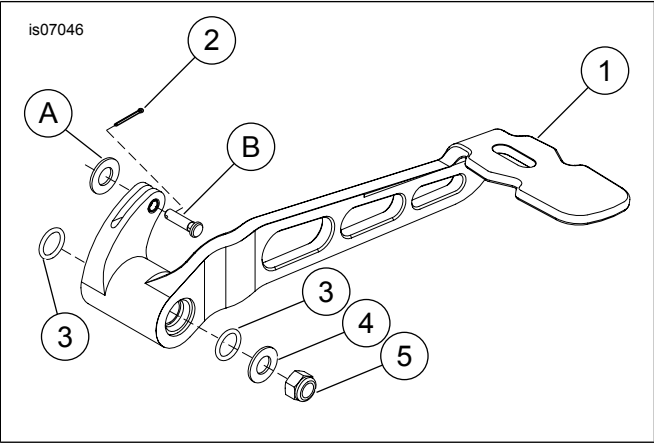

Figure 1. Service Parts: Billet Rear Brake Lever
See Figure 1 and Table 1.
1. See Figure 1 and Table 1. Remove the cotter pin and washer (A) from the master cylinder clevis pin. Discard the cotter pin.
1. See Figure 1 and Table 1. Insert new O-rings (3) on either side of the lever bushings. Install the new brake lever (1) onto the shaft.
2. Align the holes in the lever and brake rod and insert the stock clevis pin (B).
3. Install the small saved flat washer onto the clevis pin and insert the new cotter pin (2).
4. Install the large flat washer (4) and locknut (5) from the kit. Tighten the locknut to 20–27 N·m (15–20 ft-lbs).